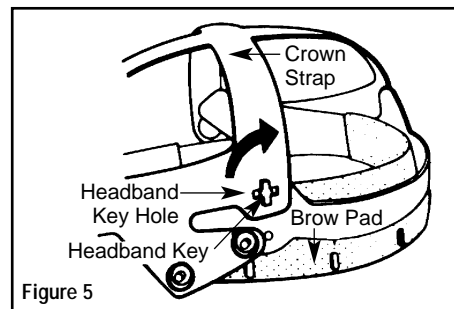

Figure 5
1. Rotate crown strap 90° until key dislodges from keyhole (see Figure 5).